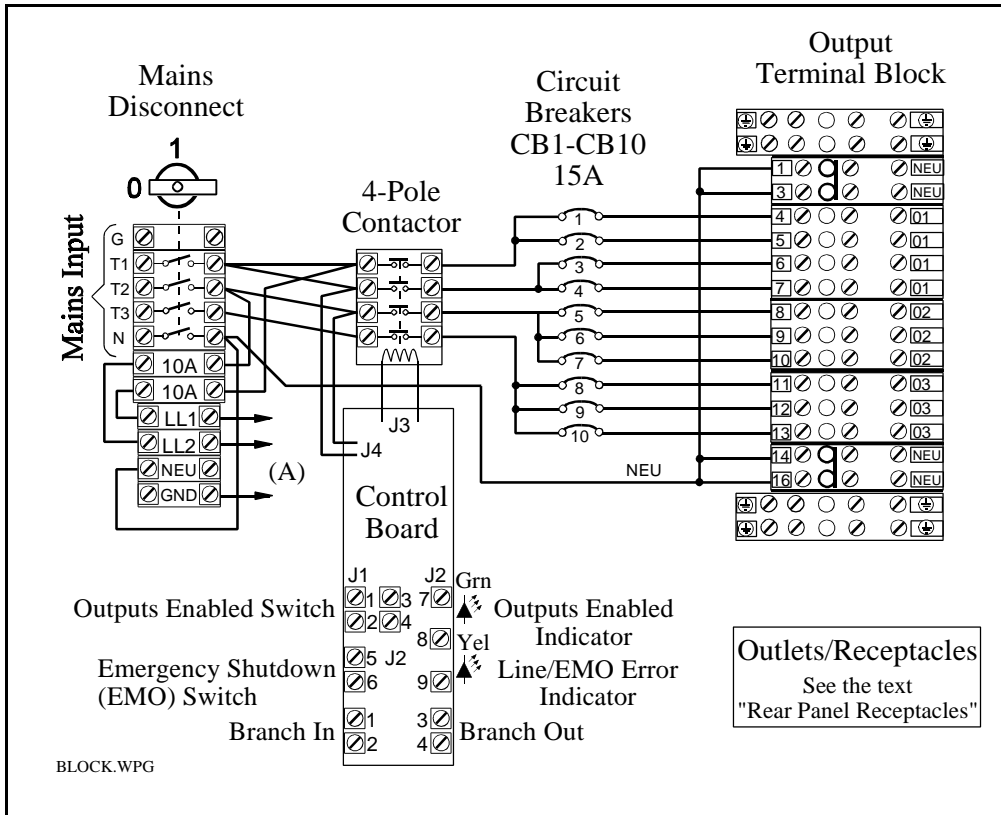
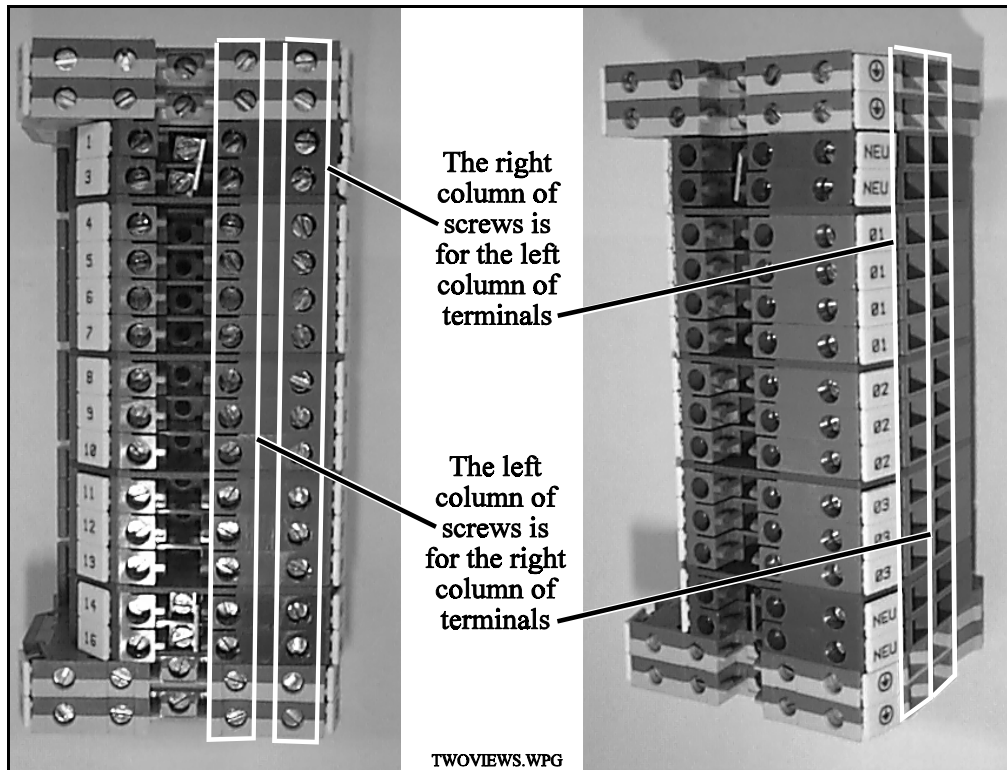

Figure 2. HP E1135C PDU Functional Block Diagram
Figure 3. The Output Terminal Block
The mains input is wired directly to the 4-pole Mains Disconnect Switch (Figure 2). From the Mains Disconnect Switch, current passes through the 4-pole contactor and 15-amp circuit breakers to the output terminal block. The contactor — controlled by the Control Board — switches power on and off to the output terminals. Receptacles (outlets) on the rear panel of the PDU can be wired to the input terminals (A) for un-switched power (fused at 10 amps) or to the output terminal block for switched power. Loads can be hard-wired to the output terminal block or plugged into the receptacles.
The output terminal block has two columns of screws and two columns of terminals as shown in Figure 3. In total there are 20 line terminals, 8 neutral terminals, and 8 ground terminals. As shown in Figure 2, each of the ten lines is protected by a 15-amp circuit breaker. Loads can be wired line-to-line or line-to-neutral depending on the mains configuration and the load voltage requirements.
Switched Operation — For switched operation, wire the rear panel receptacles to the output terminal block (Figure 3, page 5). In this configuration, the outlets are protected by 15-amp circuit breakers. They are called switched because they are under the control of the control board which opens and closed the contactor (see Figure 2, page 4).